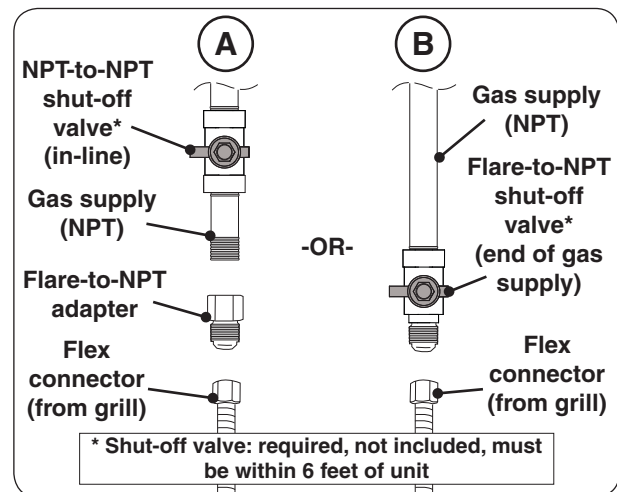

Fig. 16-2 Connecting to a gas line
- Install the supplied flare-to-NPT adapter to the gas supply (NPT) using a pipe joint compound resistant to all gasses (see Fig. 16-2, A). Tighten securely.
- Connect the flex connector to the adapter (see Fig. 16-2, A). Tighten securely.
- Connect the flex connector to the shut-off valve (flare) (see Fig. 16-2, B). Tighten securely.